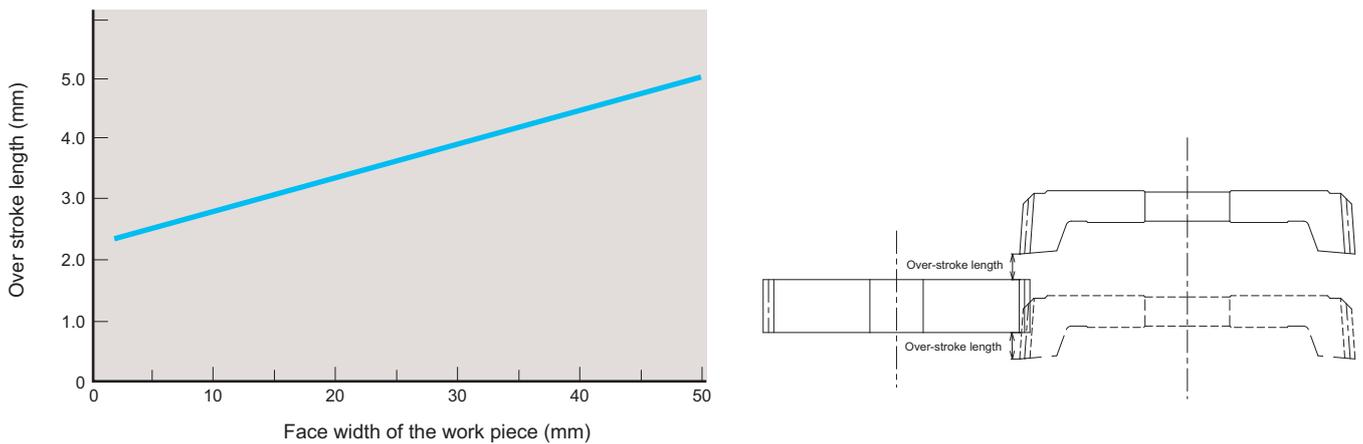

Fig.10 Relation between face width of the work piece and over stroke length
(1) In gear shaping, the runouts of cutter clamp and work piece clamp should be less than $5\mu\text{m}$, since they influence the step of finished gear bottom, etc.
(2) The stroke length is the length that the distance between the top and the bottom of the face width of the work piece and the over stroke length are combined. The over stroke length should be changed according to the face width of the work piece. (Please refer to Fig.10.)